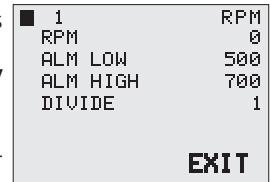

Figure 16: RPM calibration screen
2. Press **ENTER** to edit the input function and use the **NAV** keys to select the **RPM** option as shown in Figure 16.